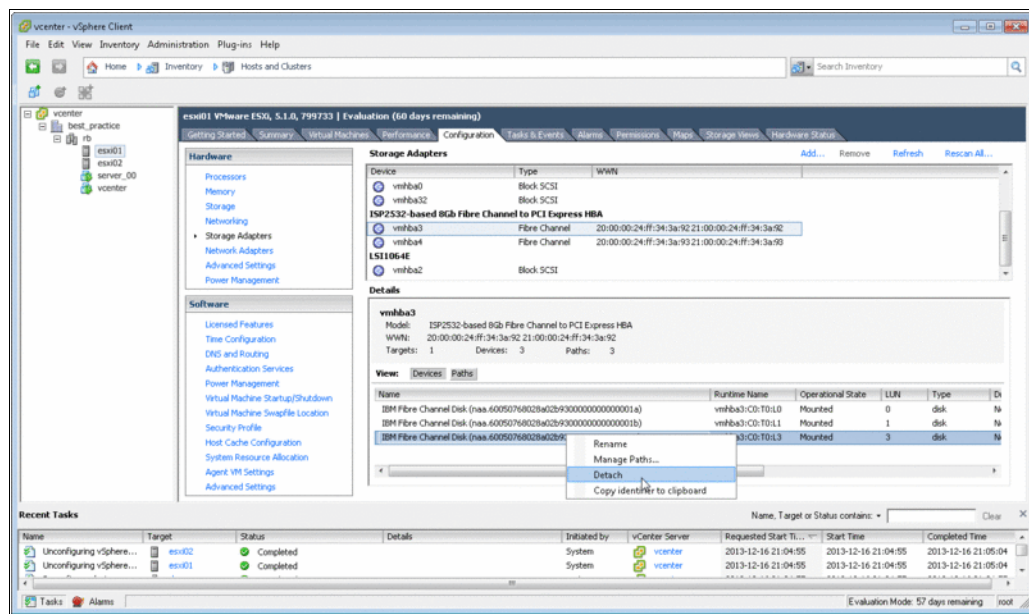

Figure 16-31 Detaching the device corresponding to the datastore
- Switch to the Storage view and in the lower right pane, click **Devices**. In this view, right-click the device identifier and click **Detach**, as shown Figure 16-31. A window opens in which the prerequisites are listed. If all the prerequisites are met, click **OK** to confirm detaching the device.